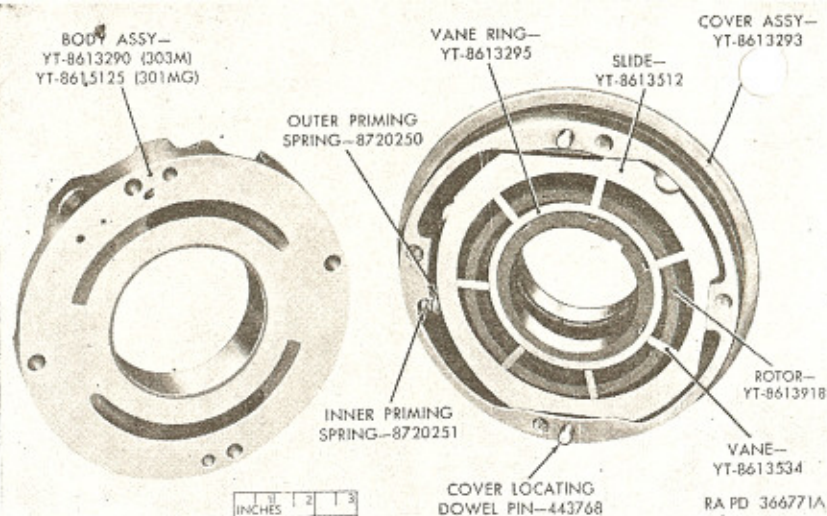

Figure 87. Front oil pump cover removed (303M shown).
b. Lift pump body assembly (H) from pump cover assembly (B). Figure 87 illustrates disassembled parts. Do not lift cover from body as parts will fall from assembly and become damaged.